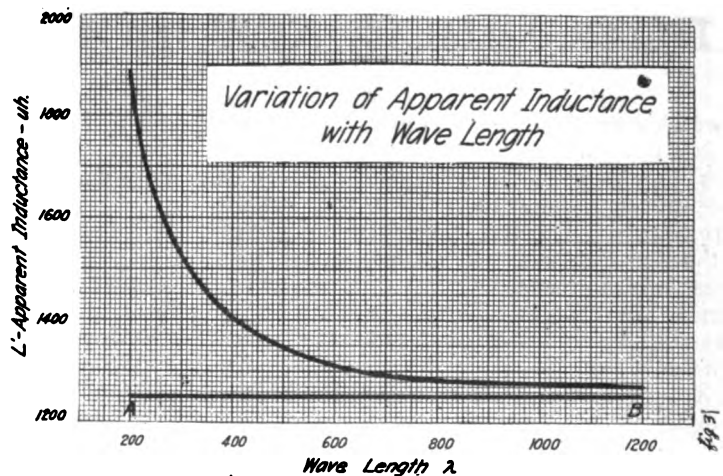

Figure 3—Variation of apparent inductance with wave length
the coil terminals and measuring), it will have a shape as shown in figure 3. This figure represents an actual curve taken on a coil, the true inductance of which is 1250 microhenries,
A consideration of equation A and figure 3 will show the following. If the wave length at which the coil is worked is large compared to the coil fundamental, that is frequency low, then the term $\omega^2 L C_d$ becomes very small compared to unity. Therefore equation (A) becomes
That is, at the natural wave-length of the coil the apparent inductance becomes equal to infinity, which is shown by the curve in figure 3 becoming vertical at the lower wave lengths. Thus at these waves the distributed capacity exerts its maximum influence on the apparent inductance of the coil, and it is therefore evident that if the induc-
becomes equal to the true inductance. This is shown by the curve in figure 3 becoming horizontal at the higher waves, approaching the horizontal line AB as its limiting lower value, which is that of the true inductance. Thus, at the high waves the effect of the distributed capacity is small and negligible, and it is at these higher waves that the inductance of a coil should be measured—if a resonance method is used—in order to obtain the true value.